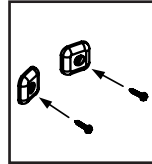

FIGURE 5
4. Take two handle supports and two 1" screws. Place screws through the hole provided in center of each support. **FIGURE 5.**